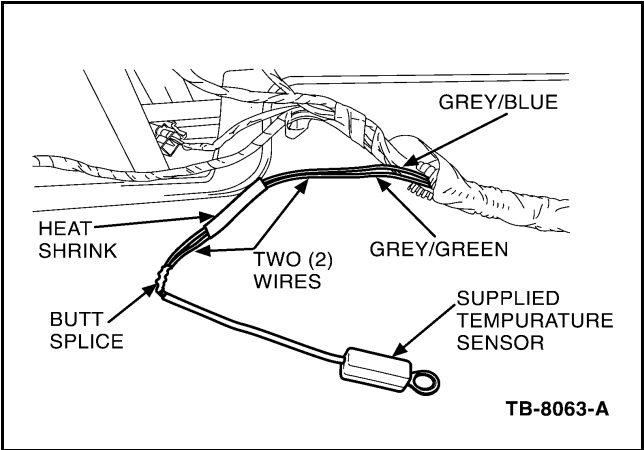

Figure 22 - Article 04-24-9
3. Secure the supplied butt splice onto the twisted pair of temp sensor leads (Figure 22).
4. Secure the supplied temperature sensor into the other end of the twisted pair butt splice (Figure 22).